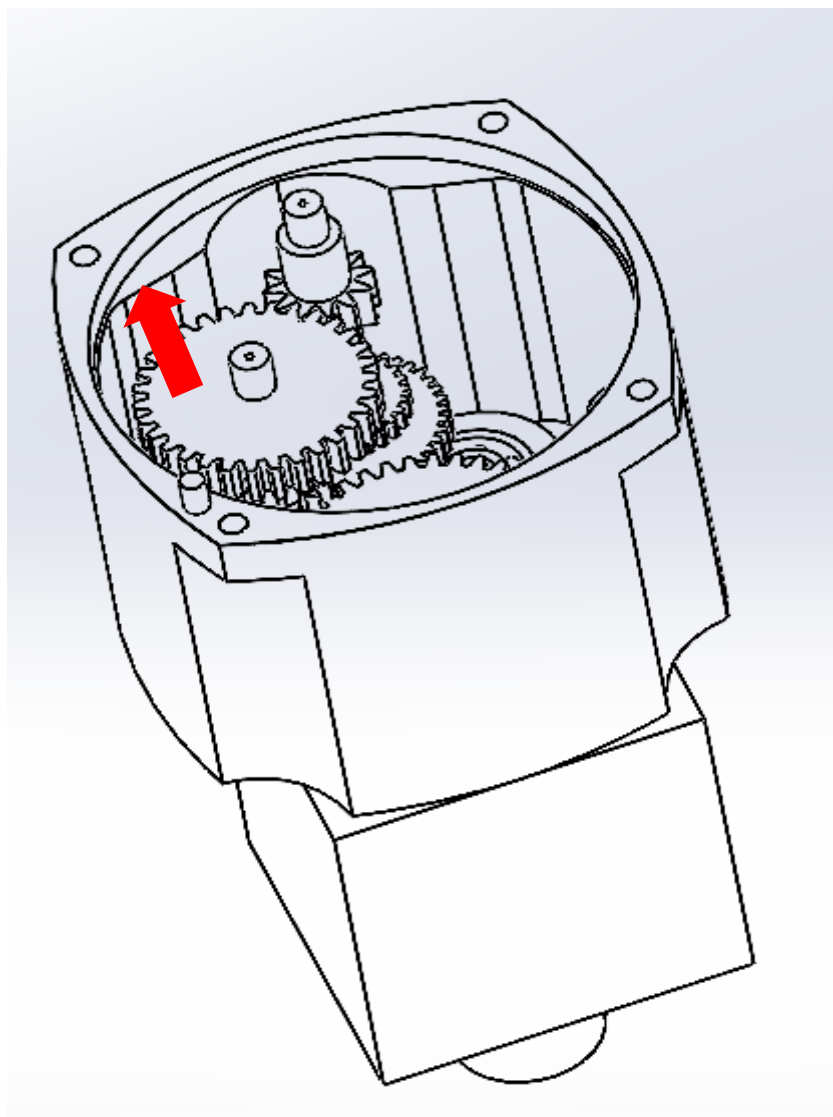

Figure 1.21
- 1.7.4 Remove the countershaft and washer in the direction of the arrow (see figure 1.21);